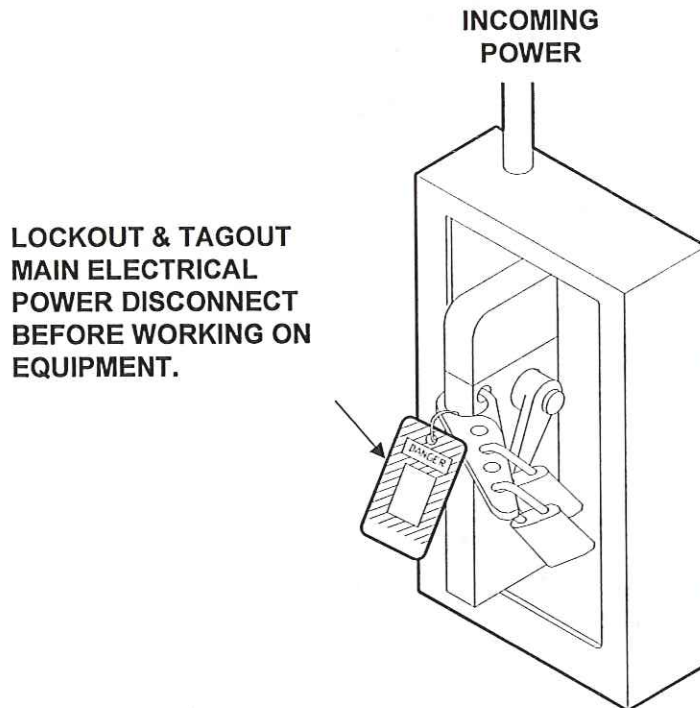

Figure 1-1: Lockout / Tagout Safety Procedures
1. Only authorized, properly trained personnel may operate the palletizer/unitizer. Follow your company lockout/tagout procedures for safety. (See Figure 1-1.)